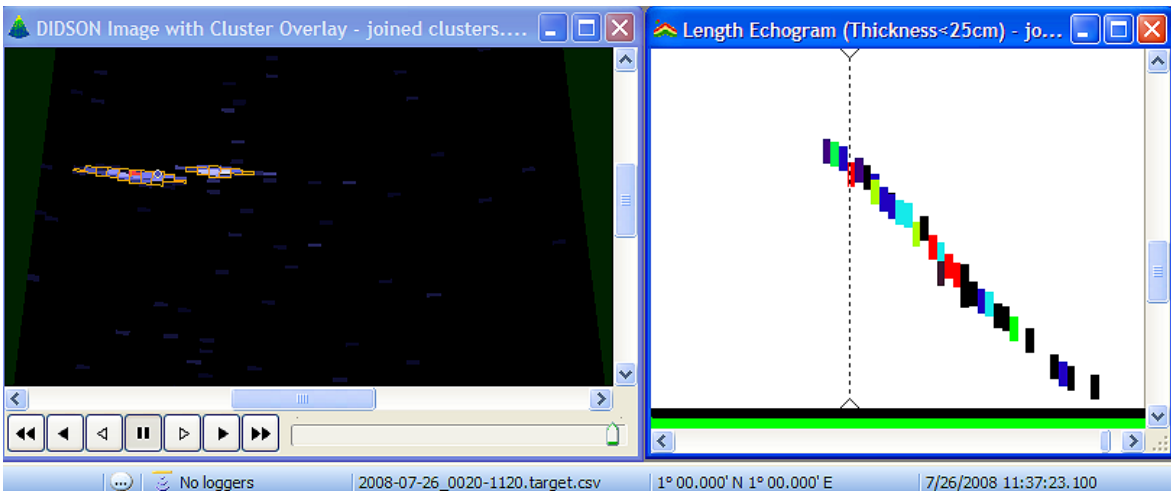

Figure 14. With closely spaced fish make sure the tracks do not include joined clusters.
**Joined clusters** typically occur with very closely spaced sockeye salmon. This typically shows as intertwining blue to blue-green traces that turn red as two or more traces merge. To confirm that this is what is happening review the video. If you are reasonably certain that the fish in question are sockeye, because of the way they behave and their uniform size, simply skip the entire group of fish. Keep in mind the goal is to estimate the number of Chinook salmon. This means track every potential Chinook salmon plus a good number of sockeye salmon. Since there are usually plenty of easy sockeye traces in each file, it is acceptable to skip groups of closely spaced sockeye which would otherwise be difficult to track. If you still want to include at least some of the fish restrict the tracking box to portions of the traces that show no sign of merged clusters (Figure 14).